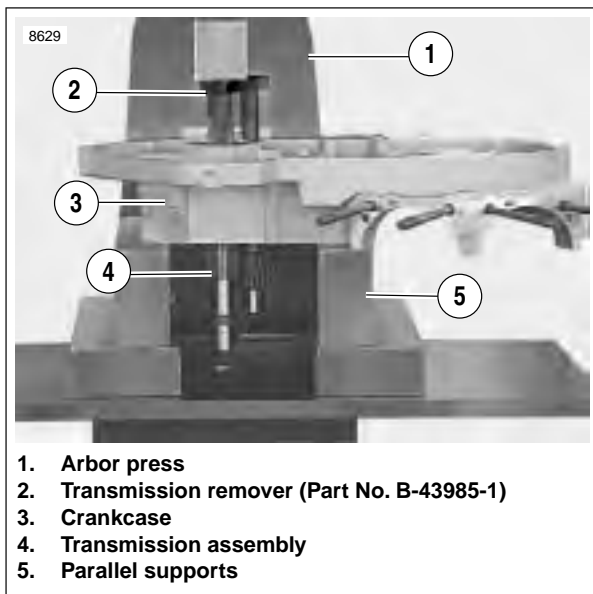

Figure 6-59. Removing Transmission Assembly from Left Case Half
3. See Figure 6-59. Remove left crankcase half and transmission assembly (4) from engine stand.
- a. Place crankcase half (3) and transmission assembly (4) on arbor press (1) and support transmission assembly on parallel supports (5).
- b. Press transmission assembly using TRANSMISSION REMOVER (2) (Part No. B-43895-1) to remove transmission assembly from crankcase half.